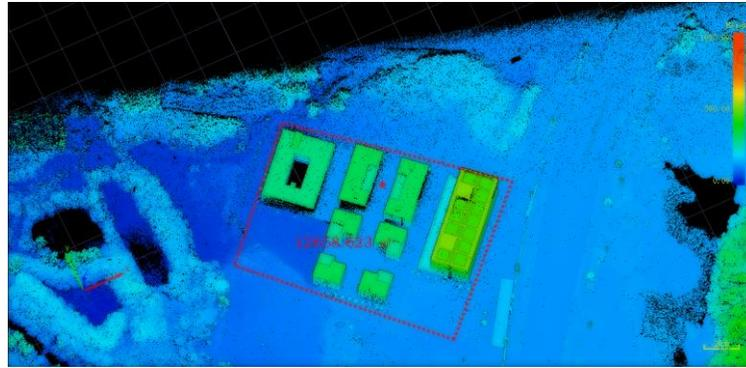

Figure 3-102 Measure Area
- (1) Click the menu <Tools> → <Measure Area>.
- (2) Click the left mouse button to draw polygons at different locations in the view (Figure 3-102).
- (3) Double-click the left mouse button to end the drawing, and the value of the area within the polygon will be displayed in real time on the view.
- (4) Cancel: click <Measure Area> again.